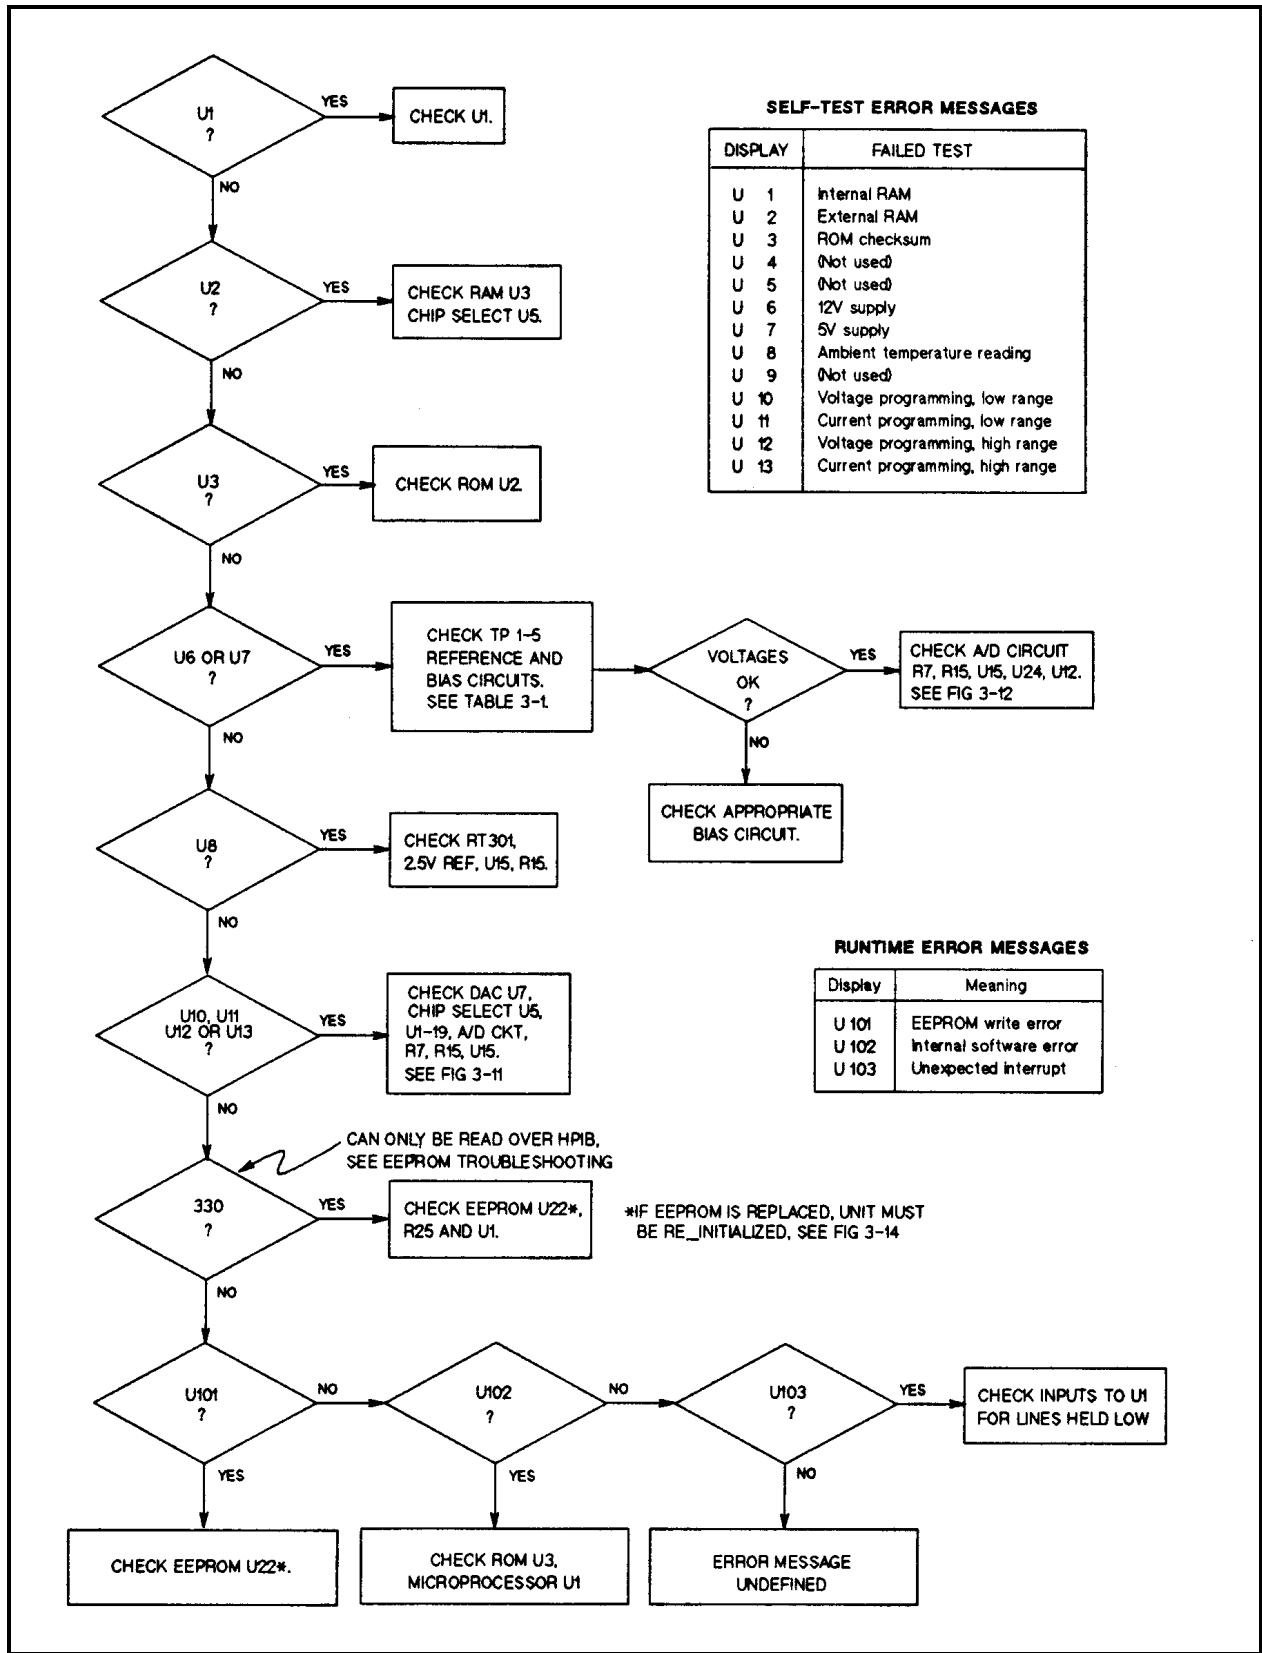

Figure 3-3. Troubleshooting Error Messages
- ⌋ Figure 3-3 - Troubleshooting Error Messages
If you experienced a selftest failure or runtime error message as described in Chapter 3 of the *Power Module User's Guide*, disassemble the module and proceed directly to the flowchart in Figure 3-3 "Troubleshooting Error Messages".